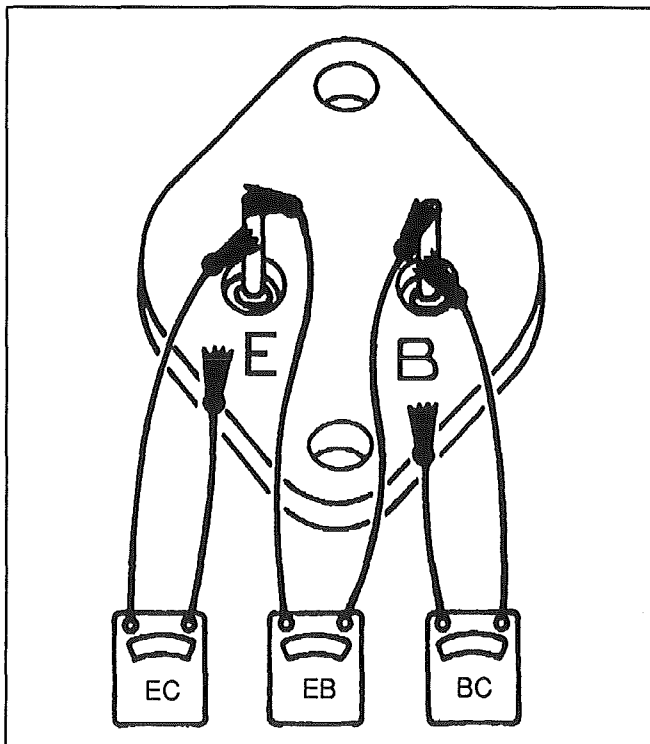

FIG. 32 - Checking transistors TR1
b) By removing any retaining screws involved and unsoldering the connections. When resoldering, limit solder time to a minimum as excessive heat may damage the printed circuit and component parts. However, good soldered connections are essential for satisfactory operation. A resin core 63% tin 37% lead solder with a 360 °F (182 °C) melting point is recommended along with a soldering iron rated at 50 watts or less. Use extreme care to avoid overheating. Before checking the printed circuit board, remove transistor TR1, which must be checked separately. Connect the ohmmeter as shown in figure 32, and then reverse the ohmmeter leads to obtain two (2) readings on the same component. Use the middle scale on scale-type meters where the 300 ohm value should be within, or nearly within, the middle third of scale.
**Transistor TR1** = See figure 32. Use the low scale. Each of the three checks should read low and high. If not replace TR1.